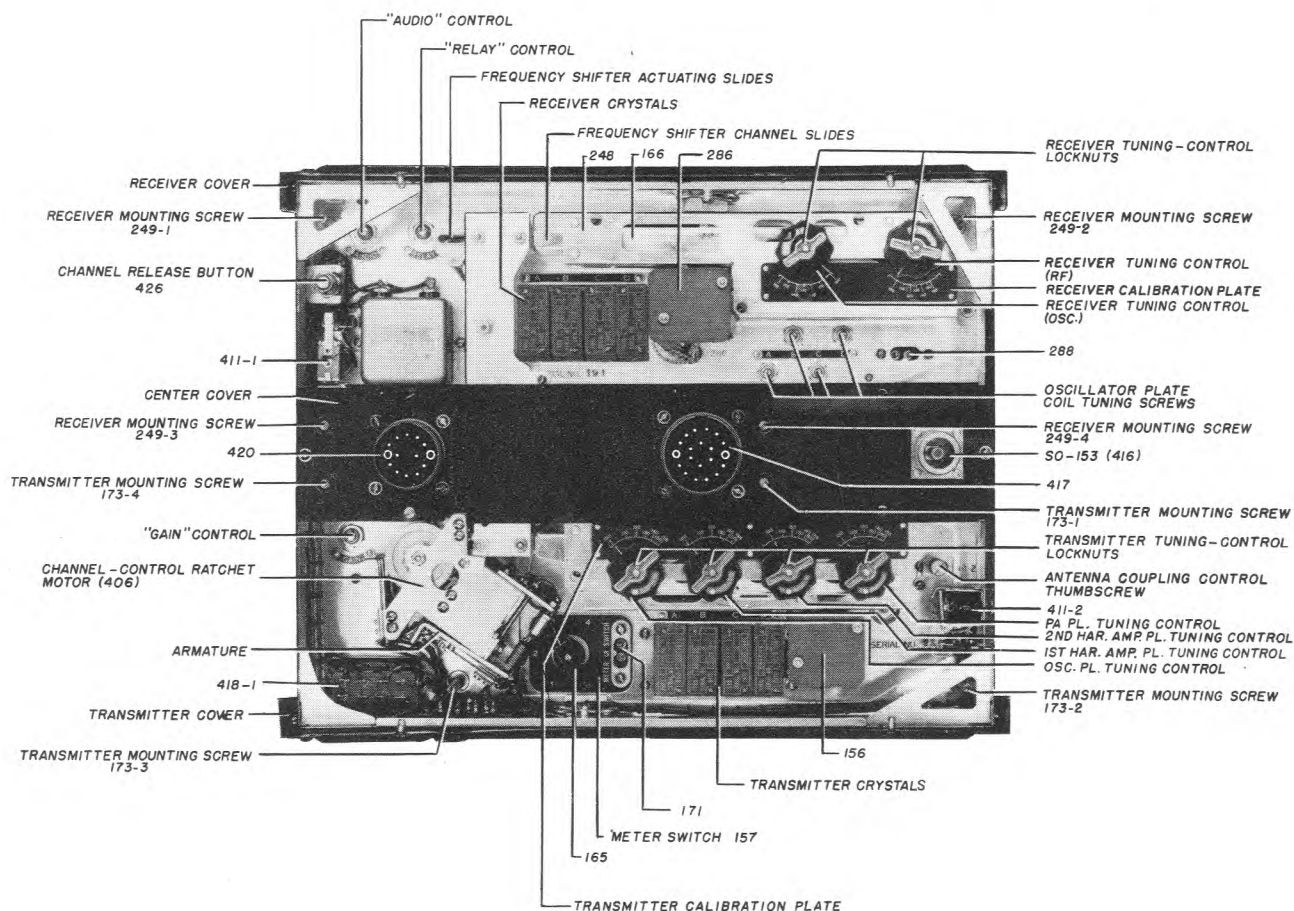

FIGURE 10—RADIO SET SCR-522-A, TRANSMITTER-RECEIVER ASSEMBLY
NOTE: When using Test Equipment IE-19-A for aligning the channels of Radio Set SCR-522-A, the radio set should be installed in the aircraft and connected for operation by means of Radio Control Box BC-602-A. Refer to Figure 10 for location of the tuning and adjustment controls on the transmitter, receiver, and rack of Radio Set SCR-522-A.
the crystal sockets. Plug the cord of Test Set I-139-A into the two-prong transmitter test-milliammeter socket 171 located on the right side of the transmitter "METER SWITCH" (see FIGURE 10).
(e) If the test set reading is more than 0.75, slide the antenna-coupling control (see FIGURE 10) to the right until the reading is less than 0.75.
(1) Test Equipment IE-19-A and a headset or an output meter are required for receiver tuning. Refer to FIGURE 10 for location of tuning and adjustment controls of Radio Set SCR-522-A.
(2) A receiver crystal is identified by the fundamental frequency (kc) which appears on the crystal nameplate.
(b) Connect Cord CD-477 to the "R.F. OUTPUT" socket on the signal generator and to the antenna socket, Socket SO-153, on Rack FT-244-A (see FIGURE 10). Connect Test Set I-139-A to the signal generator "METER" socket.